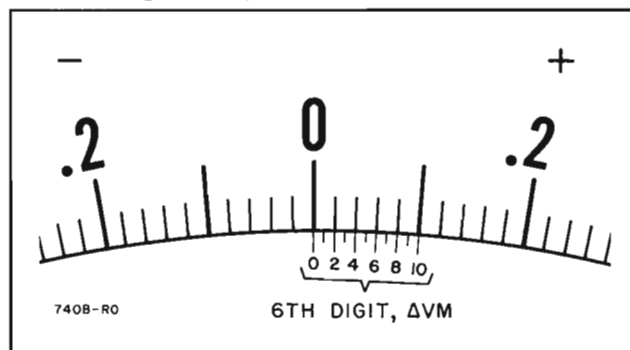

Figure 3-7. Sixth Digit ΔVM
- r. Read the first five digits from the digital readout tubes; sixth digit from the meter (Figure 3-7).